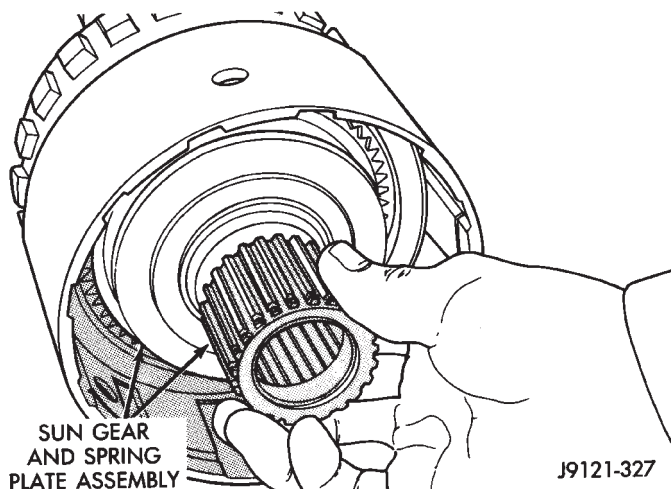

Fig. 287 Sun Gear Installation
(15) Install assembled sun gear, spring plate and thrust bearing (Fig. 287). Be sure sun gear and thrust bearing are fully seated before proceeding.